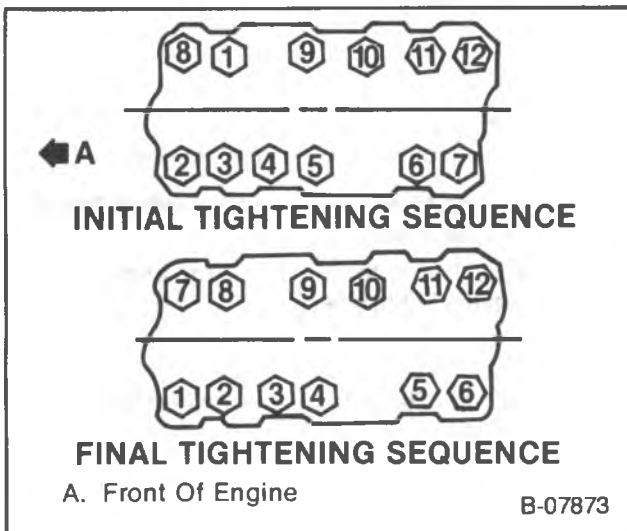

Figure 9 — Intake Manifold Bolt Tightening Sequence
- Intake manifold bolts to 48 N·m (35 ft. lbs.). Use the tightening sequence shown in figure 9.